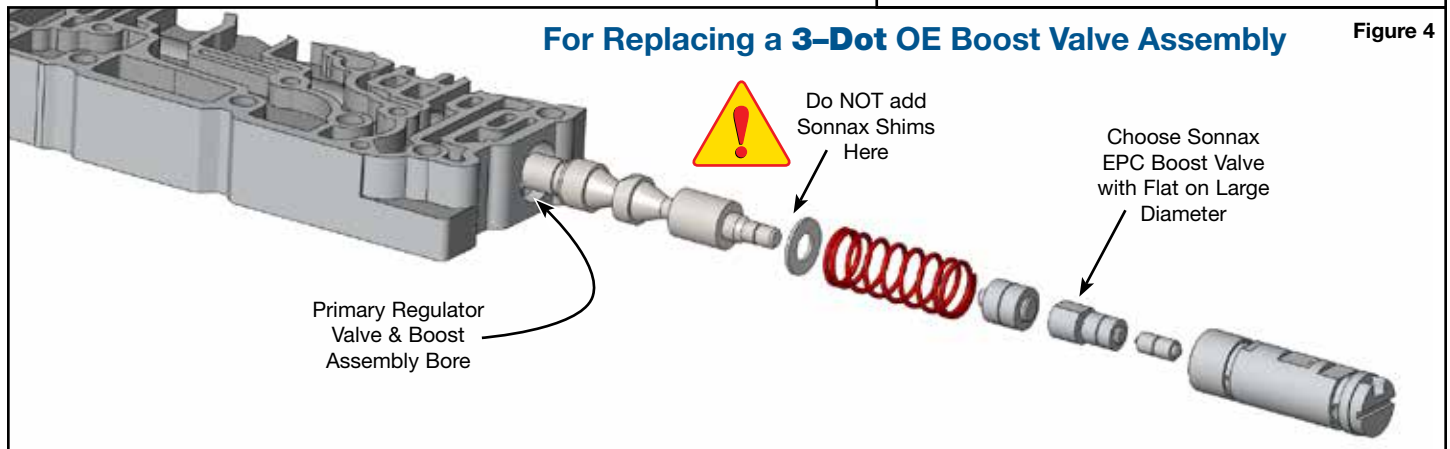

Figure 4
- If replacing an OE sleeve with two or three dots, do NOT add Sonnax shims. Just reinstall the OE washer (**Figure 4**).
- If replacing an OE sleeve with no dots, install both Sonnax shims between the OE washer and pressure regulator valve, then reinstall the OE washer (**Figure 4**).